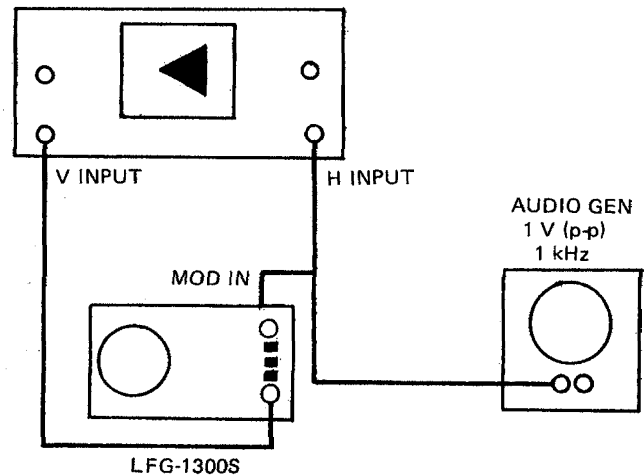

Figure 6-7. Setup For Amplitude Modulator Adjustment
2. Connect the audio generator and oscilloscope as shown in Fig. 6-7.
3. Adjust the CARRIER LEVEL control to obtain the waveform in Fig. 6-7.